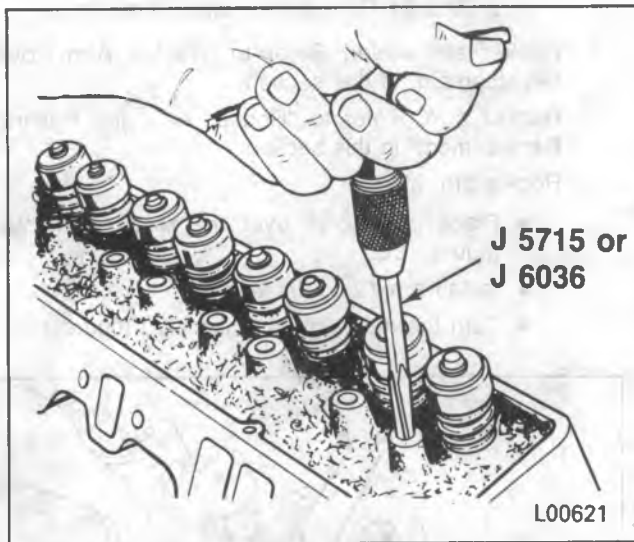

Figure 13 — Reaming the Rocker Arm Stud Bore
Install or Connect (Figures 13 and 14)
- Ream the hole to the proper size for the replacement oversize rocker arm stud. Use J 5715 for 0.003-inch oversize studs; J 6036 for 0.013-inch oversize studs (figure 13).